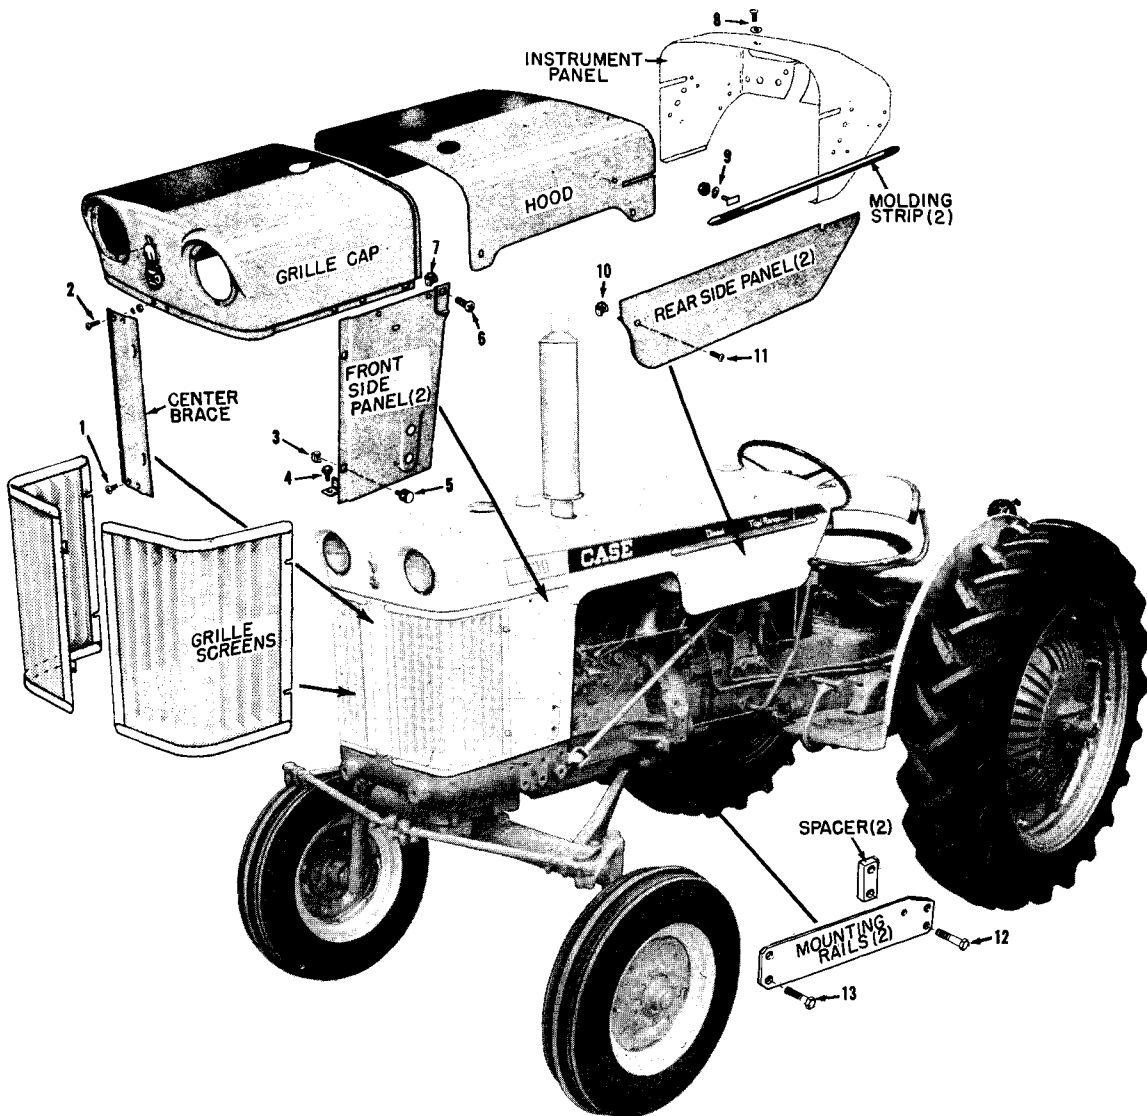

Fig. A-7 Sheet Metal Fasteners Location
2. Remove "Phillips" head bolts as shown. Fig. A-7.